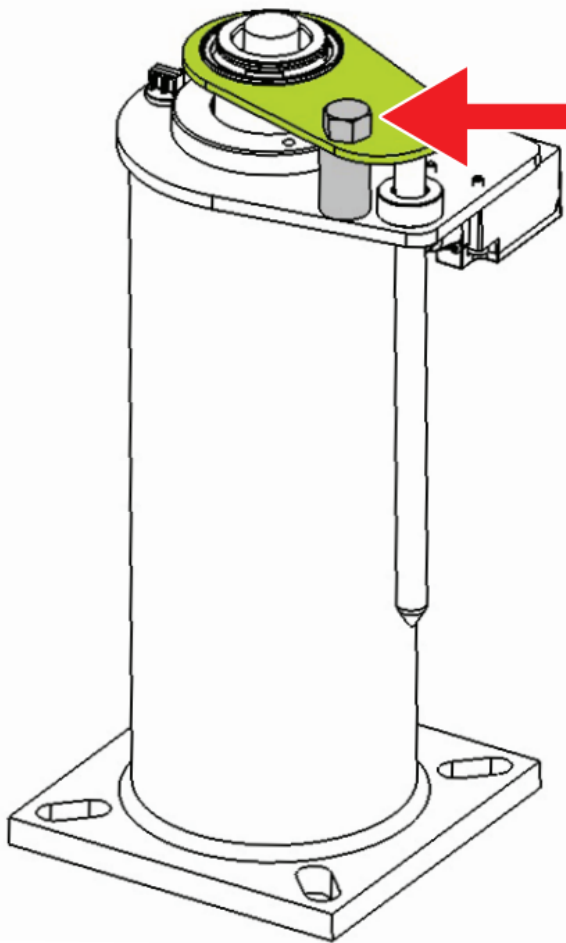

Figure 3
- To release the plunger, undo the transportation bolt. ( GREY in figure 3)
- Discard the transportation bolt and spacer ( GREY in figure 3)
- After periods of being held in the compressed state during transportation and storage, the plunger may require assistance to initially extend. This should be done using rubber dead blow mallet to tap the underside of the buffer top plate ( GREEN in figure 3) at 90 degree intervals until the plunger extends.